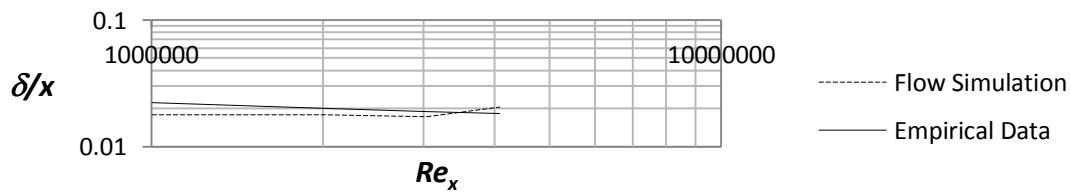

Figure 2.30b) Boundary layer thickness for turbulent boundary layers at $Re_x = 10^6 - 4.1 \cdot 10^6$
Place the file “xy-plot figure 2.30b)” into the **Local Disk (C:/Program Files /SolidWorks Corp/SolidWorks Flow Simulation/lang/english/template/XY-Plots** folder to make it available in the **Template** list. Repeat step 24 and choose the sketch **x = 0.2, 0.4, 0.6, 0.8 m** and check the box for **Velocity (X)**. Rename the xy-plot to **Turbulent Boundary Layer Thickness**. An Excel file will open with a graph of the boundary layer thickness versus the Reynolds number, see figure 2.30b).